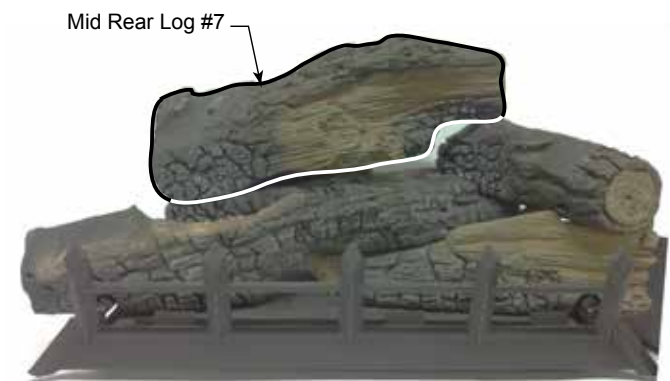

Figure 31
7. Place mid rear log (#7) on bottom rear log (#1) and mid right log (#6) by placing notch on bottom of log onto locating block on log #1. Right side of log will rest on log #6. *Figure 31*